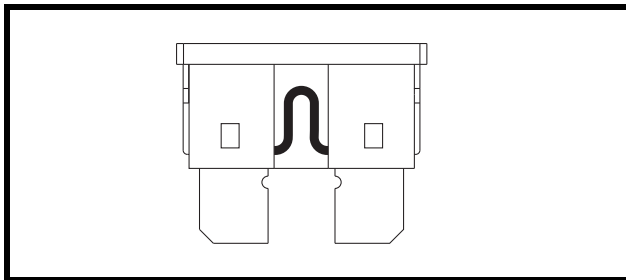

Figure 26. Working Fuse
2. Examine the fuse to be sure it is blown. See figures 26 and 26A.